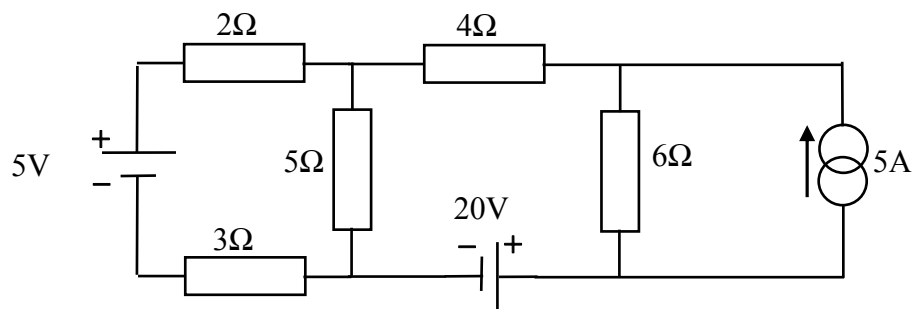

Figure 4.2
- b. A constant current source of 5A is added to the network in parallel with the 6Ω resistor, as shown in Figure 4.2. Calculate the new current through the 5Ω resistor. (5)